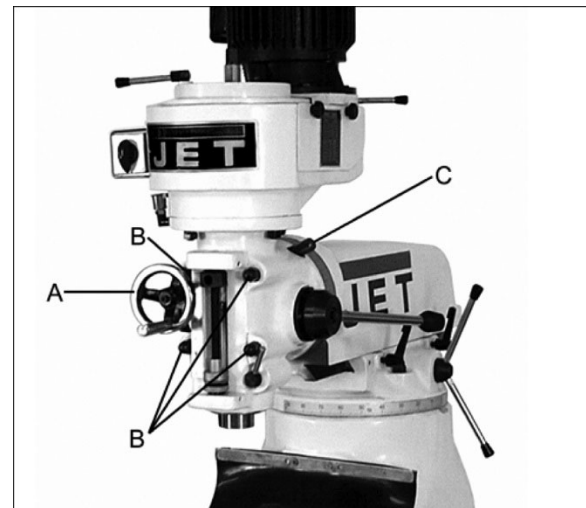

Figure 4
1. Remove handwheel (A, Figure 4).
2. Loosen four hexagonal nuts (B, Figure 4) about 1/2 turn each counterclockwise, just enough to allow rotation of head. **Do not** remove these nuts unless you are prepared to remove the head.
3. Apply upward pressure on motor by hand to relieve pressure on worm mechanism, and use a 19mm socket and breaker bar to turn worm nut (C, Figure 4) and raise head to upright position.
4. Slightly tighten nuts (B, Figure 4); not torqued, just snug for now. *Before operating mill, follow procedures in section 11.1 to verify angle settings and properly tighten the four nuts.*